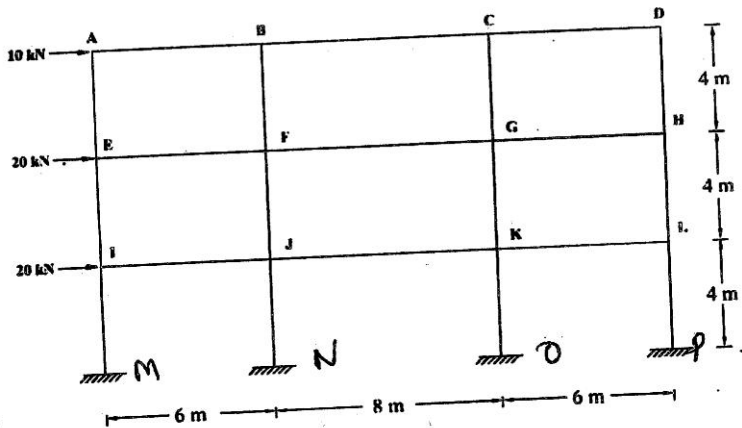

Figure-1
2. A cross section is shown in figure-1. It is subjected to horizontal loads at the joints as shown. Determine the bending moment and shear force diagram for the various beams and columns of the frame by portal method.